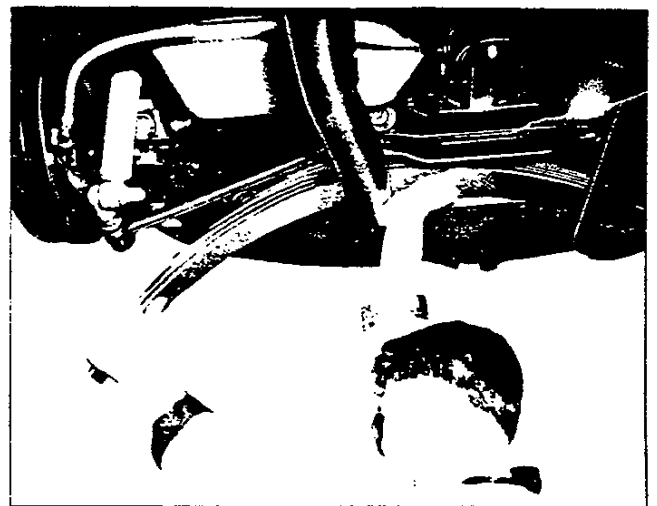

Fig. 20—Lowering Spring
9. Drop spring and slide out from under vehicle (fig. 20).